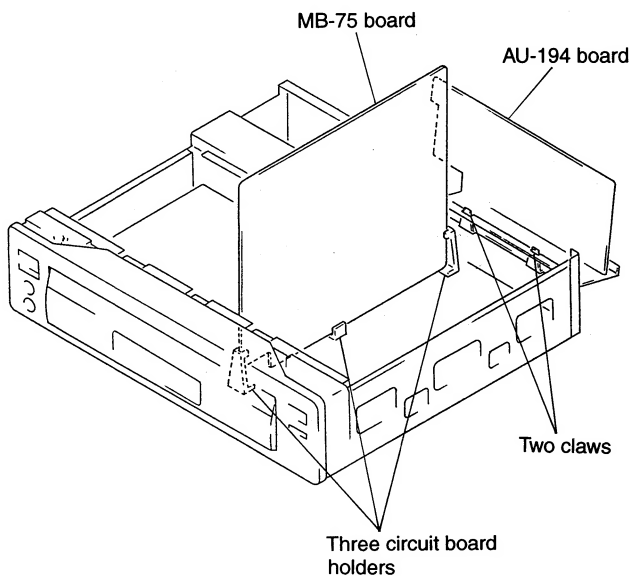

Fig. 5
- 4) Erect MB-75 board on three circuit board holders. (see. Fig. 5)
- 5) Erect AU-194 board on two claws. (See Fig. 5)